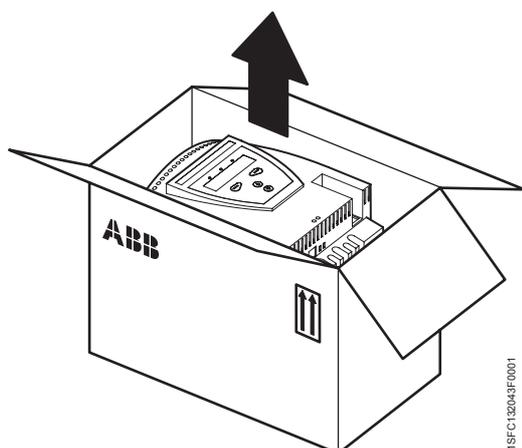

Figure 1: Package
- Check that the package is turned with the correct side up, figure 1.